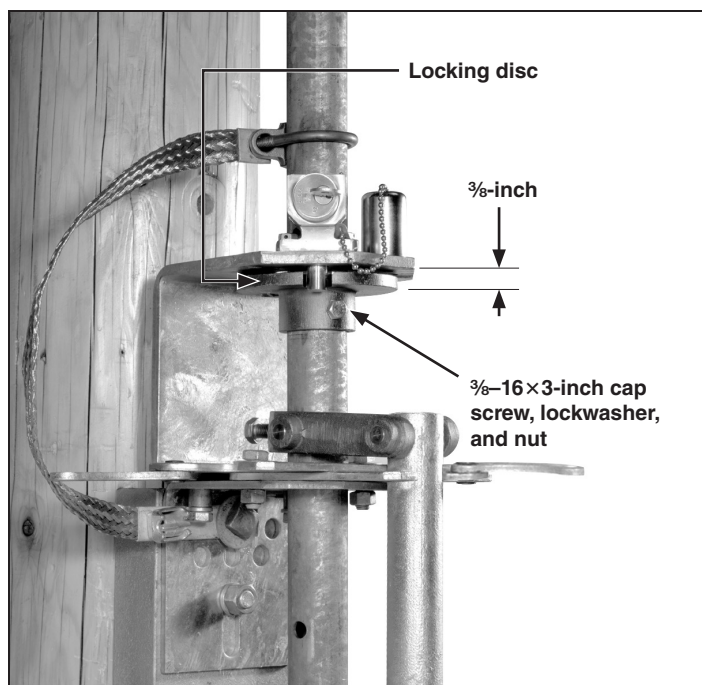

Figure 15. Attach the locking disc.
STEP 19. Hold the locking disc 3/8-inch below the interlock bracket and drill 7/16-inch diameter holes through the vertical operating pipe section, using the holes in the locking disc collar as a guide. Attach the locking disc to the pipe, using the 3/8-16 x 3-inch cap screw, lock washer, and nut furnished. See Figure 15.